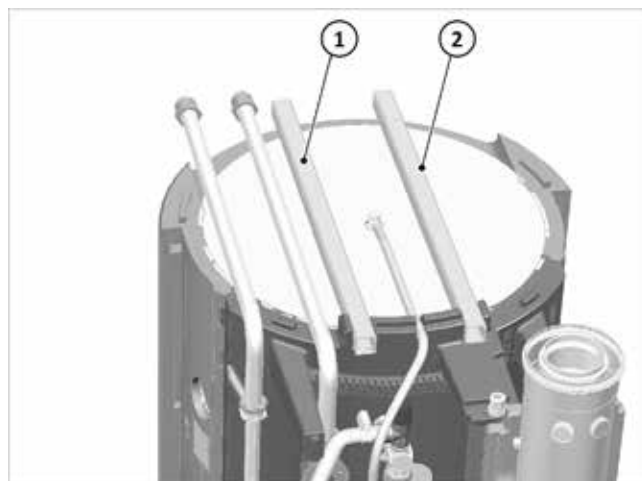

Fig. 12: Cable routing ducts
1. Route the extension cable to the SolvisBen in a suitable protective conduit or cable duct. In the SolvisBen, route the cable to the front through the right cable routing duct (→ fig. 12 (2)) in the cover area.